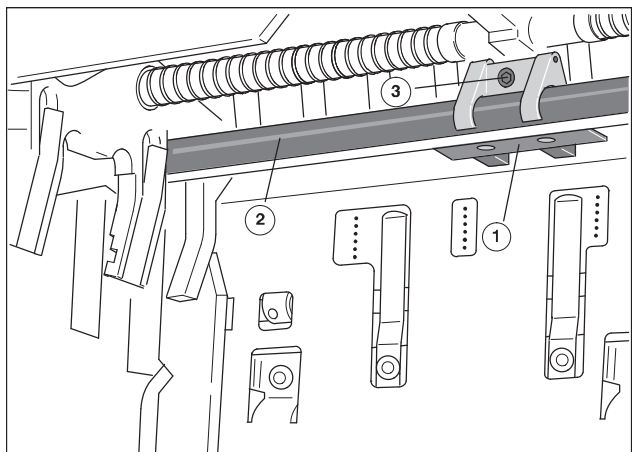

Fig. 45 Mounting the shoe on the feed table height control bar
1. Turn the press using the crank handle until the feed table height control bar (Fig. 45/2) reaches the lowest point.
2. Unscrew the Allen screw (Fig. 45/3) on the shoe (Fig. 45/1) up to the stop.
3. Place the shoe (Fig. 45/1) on the feed table height control bar (Fig. 45/2) and allow it to engage in the recesses of the feed table height control bar.
4. Fix the position of the shoe on the cross bar with the Allen screw (Fig. 45/3) (operator tool).